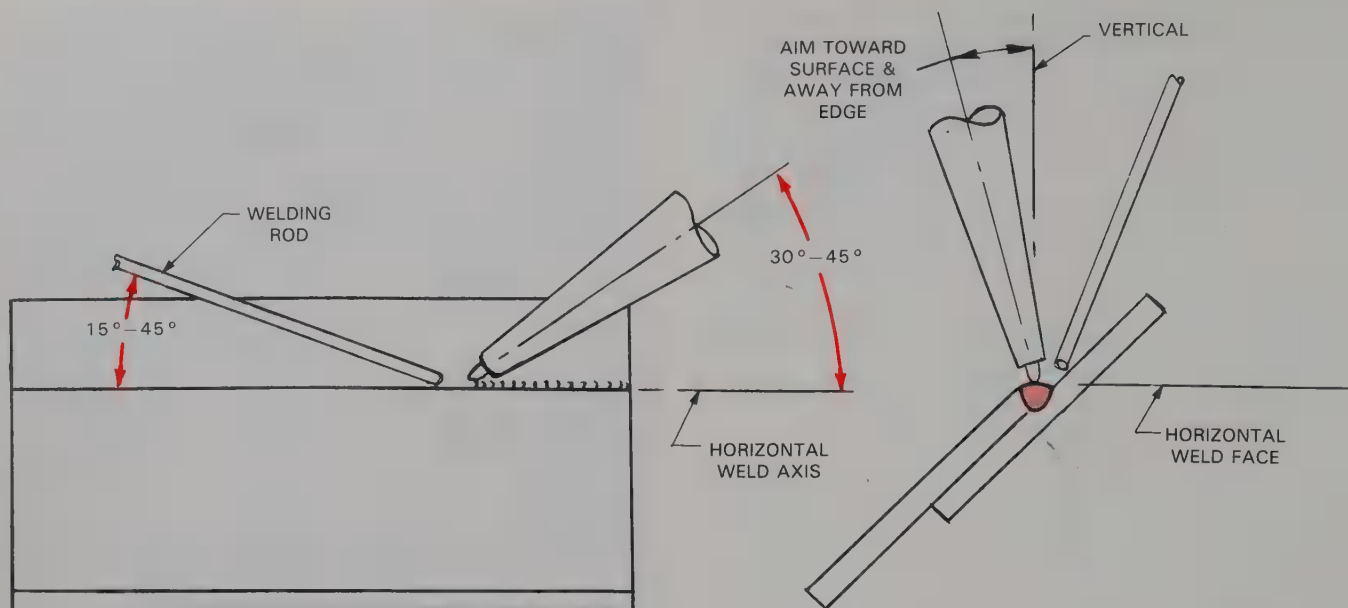

Fig. 6-12. A fillet weld on a lap joint. The edge melts before the surface. Aim the flame slightly more toward the surface to apply additional heat there.
A lap joint is welded along the edge of one piece and the surface of the other piece. The flame should be mainly directed toward the surface. See Fig. 6-12. The surface needs more heat to melt than does the edge.
8. Weld the fillet weld to create a convex bead. See Fig. 6-12. Wait for a C-shaped pool to form before adding the welding rod.